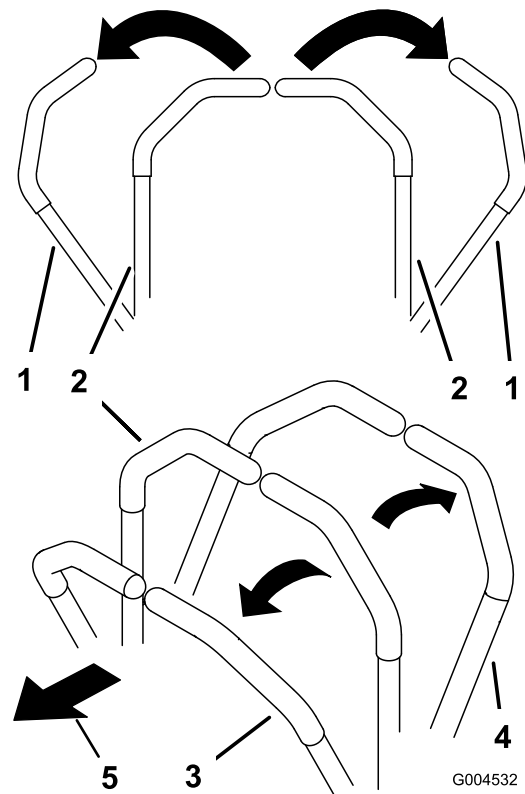

Figure 23
- To move straight forward, slowly push the motion-control levers forward (Figure 23).
- To move straight rearward, slowly pull the motion-control levers rearward (Figure 23).
- To turn, slow the machine by pulling back on both levers and then push forward on the lever on the opposite side from which you want to turn (Figure 23).